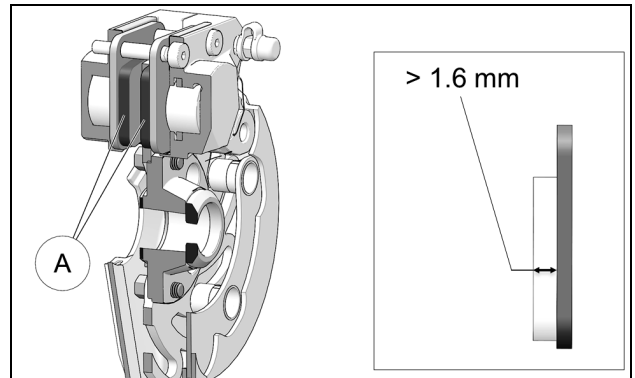

Figure 50
Inspect brake pads (A) for wear. If pad thickness is under 1.6 mm (1/16 in.), replace the parts. See Figure 50.